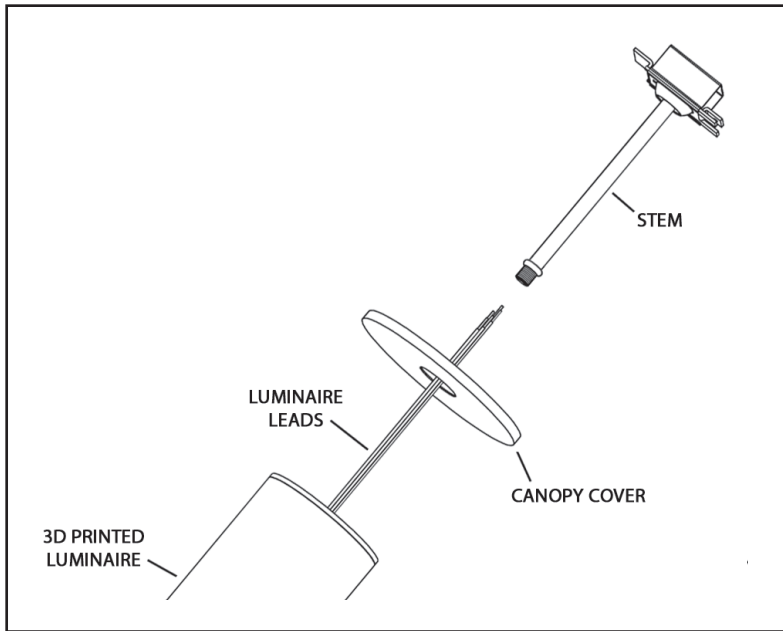

Figure 7
- Put **Luminaire Leads** through **Canopy Cover** then through the **Stem** assembly from previous Preparation section. (Figure 7)